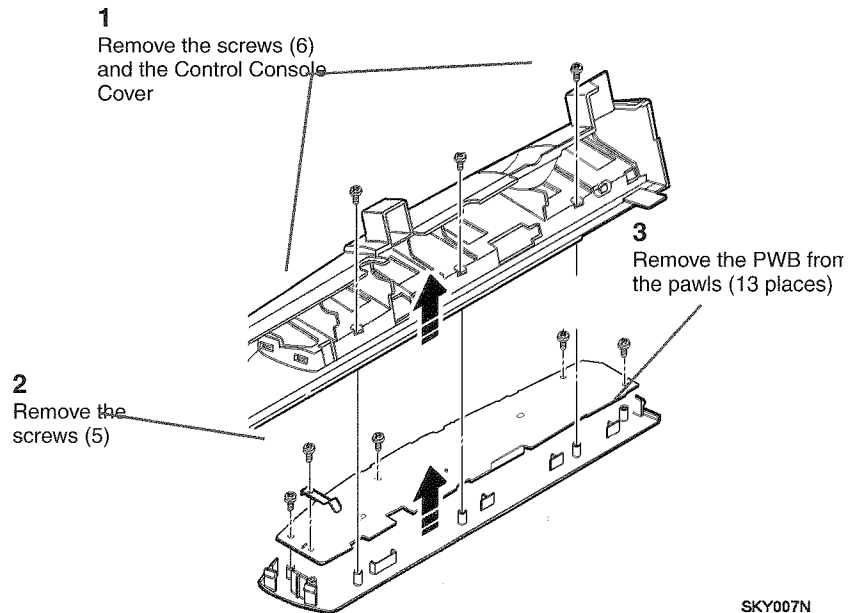

Figure 1 Removing the Control Console PWB
2. (Figure 1): Remove the Control Console PWB.